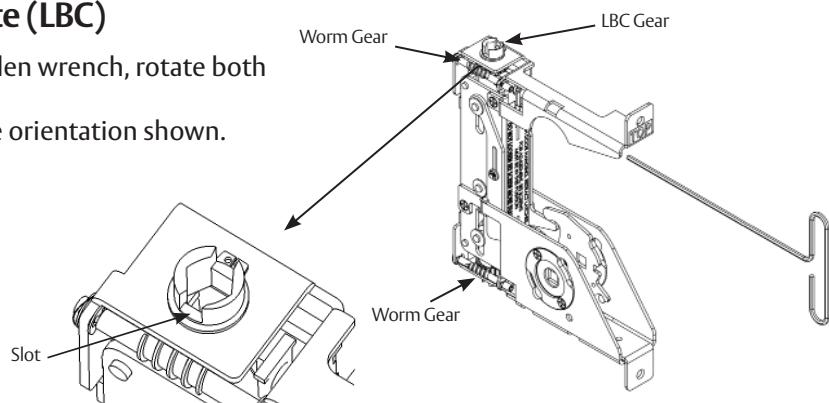

Figure 34
- Using the supplied 3/32" Allen wrench, rotate both LBC worm gears to align slots in the LBC gears to the orientation shown. (Figure 34)